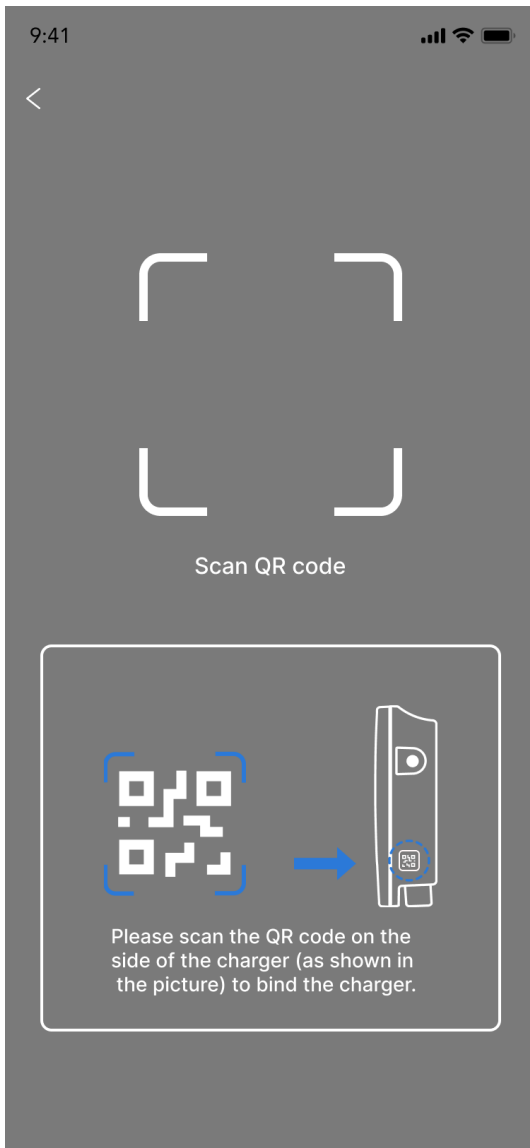

Fig.6.2.5
5. Scan the QR code as prompted to bind the charging station.(See Figure 6.2.5 and 6.2.6)